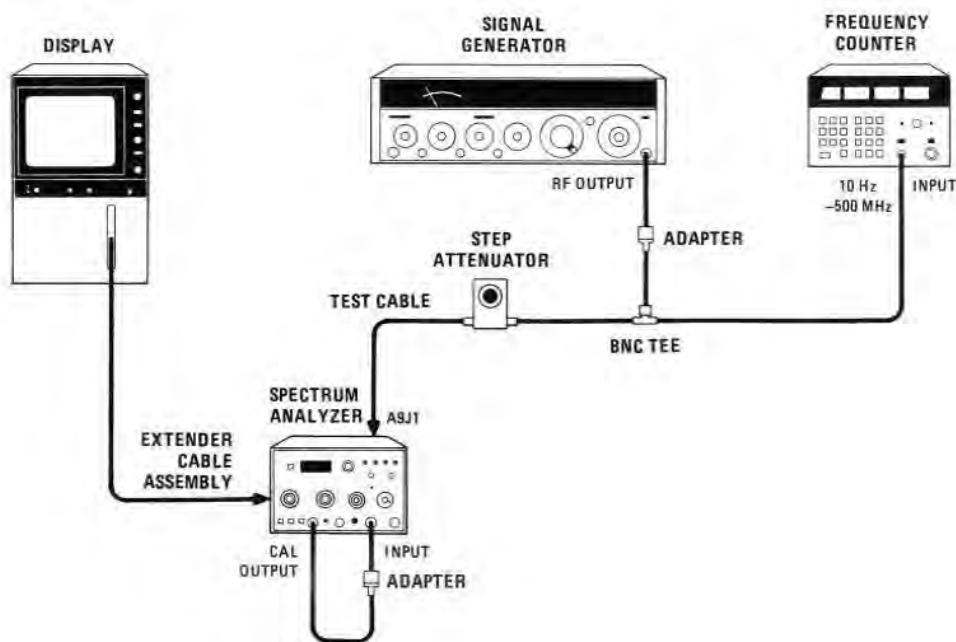

FIGURE 5-9. 3-dB BANDWIDTH ADJUSTMENT TEST SETUP
- Connect equipment as shown in Figure 5-9 except for signal input to A9J1. Connect CAL OUTPUT to spectrum analyzer INPUT 50Ω.
9. Connect signal generator through the BNC Tee connector to the step attenuator and to the frequency counter as shown in Figure 5-9. Set the signal generator to approximately 0 dBm and the step attenuator to 30 dB. Set COUNTER MODE to EXPAND X100.